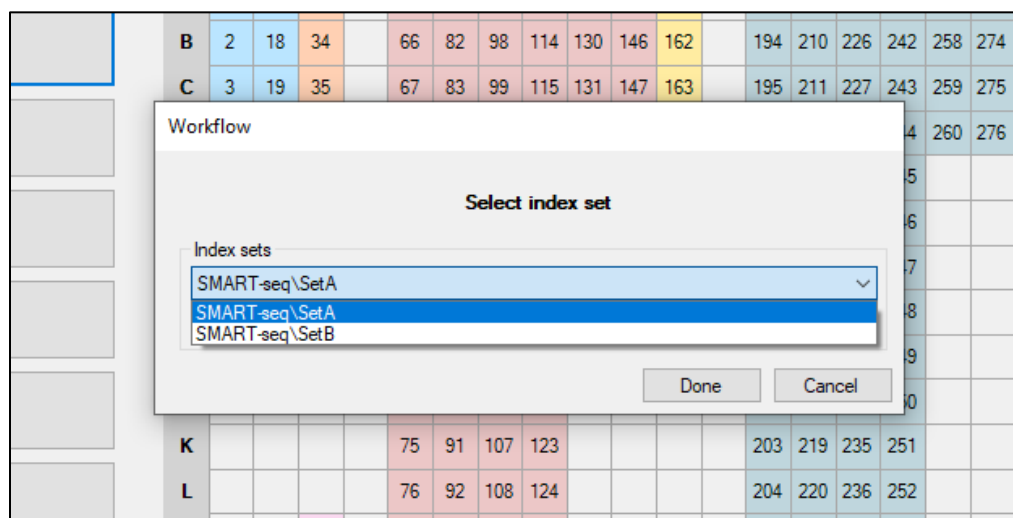

Figure 8. *Select index set workflow prompt*. The display defaults to using Set A. Ensure the correct indexing primer set is selected before clicking [Done].
A "Select index set" *Workflow* window will display asking you to indicate which SMART-Seq Pro Indexing Primer Plate you are using (Figure 8). Choose the one you are using for this run from the drop-down menu and then click [Done].
- b. For Step 6, the *New stack info* dialog window will display (Figure 12, below). The "Barcodes" field will be grayed out because the barcode file is pre-configured during the Dispense (Section V.B, Figure 8).